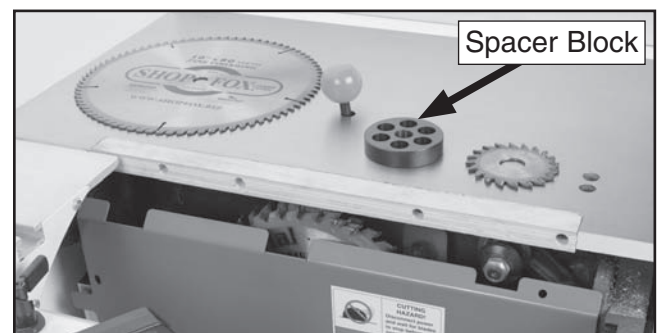

Figure 68. Dado blade installed on saw with new zero-clearance table insert.
4. Remove the spacer block installed on the arbor behind the standard blade you removed in **Step 3**. The spacer block is not used when dado blades are installed (see **Figure 68**).